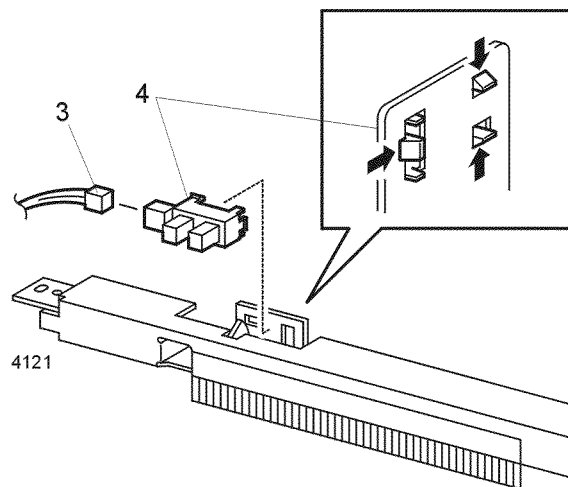

Figure 1 Stack Full Sensor
3. Disconnect P/J521 from the Stack Full Sensor (Figure 1).
4. Release the three locking tabs and remove the sensor (Figure 1).